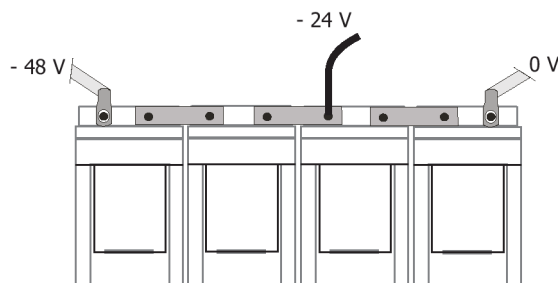

Figure 4-25 2-block Symmetry Measurement (for illustration only)
2. For 2-block battery symmetry measurement fix one wire of the symmetry cable to the cable lug in the mid-point of the battery string, see Figure 4-25.